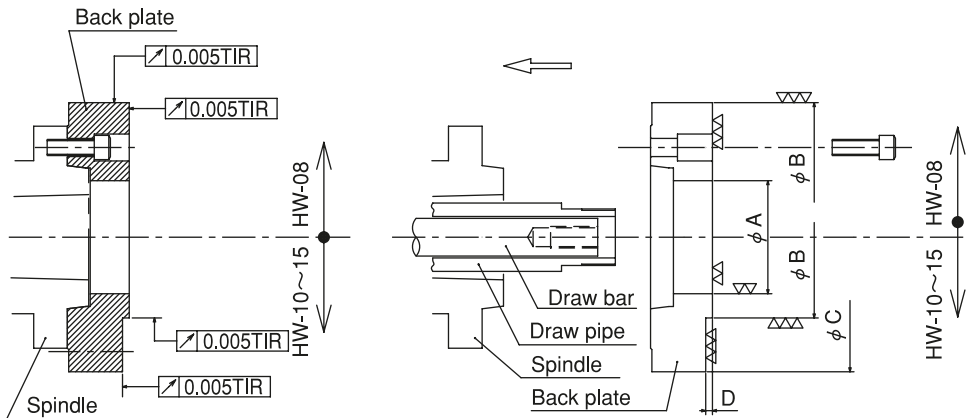

Fig.18
- Fig.18 shows the case of the JIS short taper standard.
- Determine the dimension (dimension ϕ A in Fig.18) of the back plate so that the plunger nut end surface contacts the back plate and stops when pulling the plunger nut. If the stroke is larger than the one specified, it may cause a chuck breakage or gripping failure.